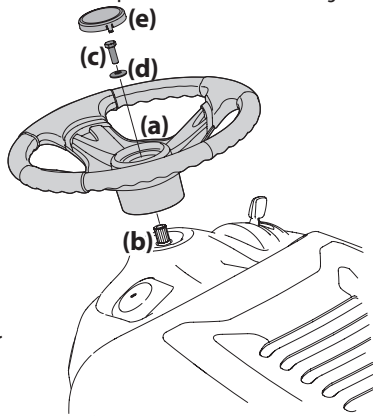

Figure 10
2. With the front wheels of the tractor pointing straight forward, align the steering wheel (a) and place it onto the steering shaft (b). See Figure 10.